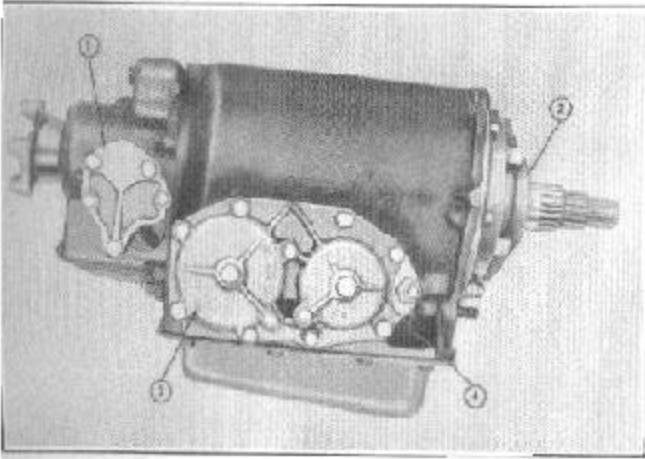
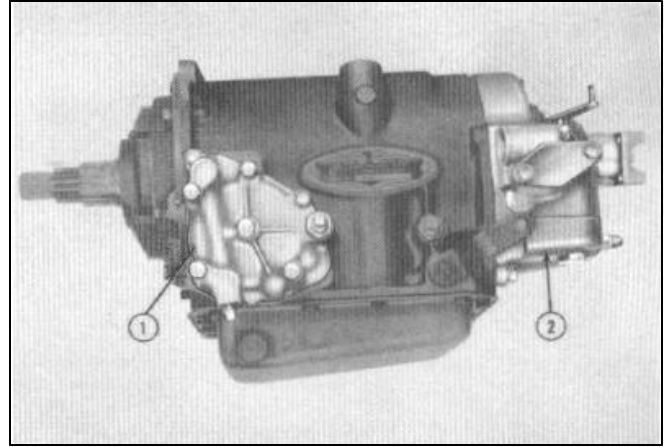

FIGURE 6
FIGURE 7
1. An internal, external gear type front pump (2), Figure 6, driven by the engine through the medium of the converter hub. It is the function of the front pump to supply the necessary oil pressure to the torque converter and the hydraulic system, and oil for lubrication during the idling, low speed, and reverse operations.
2. A rear pump which is a conventional external gear type pump, mounted in the extension case of the transmission (1), Figure 6. The rear pump, driven by the propeller shaft through the transmission mainshaft, supplies the necessary oil pressure to engage the proper bands or clutches when pushing the car to start the engine. When the rear pump reaches an adequate speed, it supplies all the oil pressure required for normal driving and the front pump pressure is cut out for greater efficiency. The rear pump also supplies lubrication to the transmission when the car is being towed.
3. A low (4) and forward (3) servo cylinder assembly located on the right side of the transmission controls the operation of the low and forward brake bands.
4. A reverse servo cylinder (1), Figure 7, located on the left side of the transmission, controls the operation of the reverse brake band.
5. An extension case assembly (2), Figure 7, mounted at the rear of the transmission case, includes a governor assembly (14), Figure 26, a governor valve assembly (10), rear oil pump assembly (1), parking pawl and toggle assembly, Figure 47, speedometer drive gear (3), Figure 39, a parking interlock piston (2), Figure 27, and a direct drive control assembly consisting of the direct drive pawl (8), Figure 26, pawl spring (7), rocker arm (9), governor valve fork (10), retainer plate (11) and governor control detent cam and plunger assembly (12).